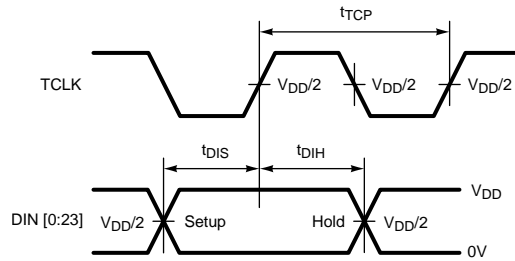

Figure 5. Serializer Setup/Hold Times
(1) Figure 5, Figure 15 show a rising edge data strobe (TCLK IN/RCLK OUT).
(2) t_{JIT} (@BER of 10e-9) specifies the allowable jitter on TCLK. t_{JIT} not included in TxOUT_E_O parameter.
(1) Specification is guaranteed by characterization and is not tested in production.
(2) Figure 5, Figure 15 show a rising edge data strobe (TCLK IN/RCLK OUT).